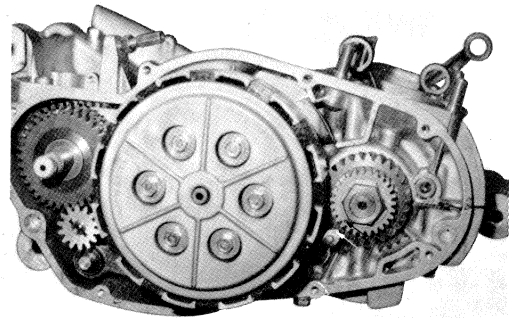

Fig. 6-11-2
- 1) Align the punched mark on the breaker camshaft drive gear fitted on the crank shaft with the alignment mark on the crank shaft setting plat (see Fig. 6-11-2).